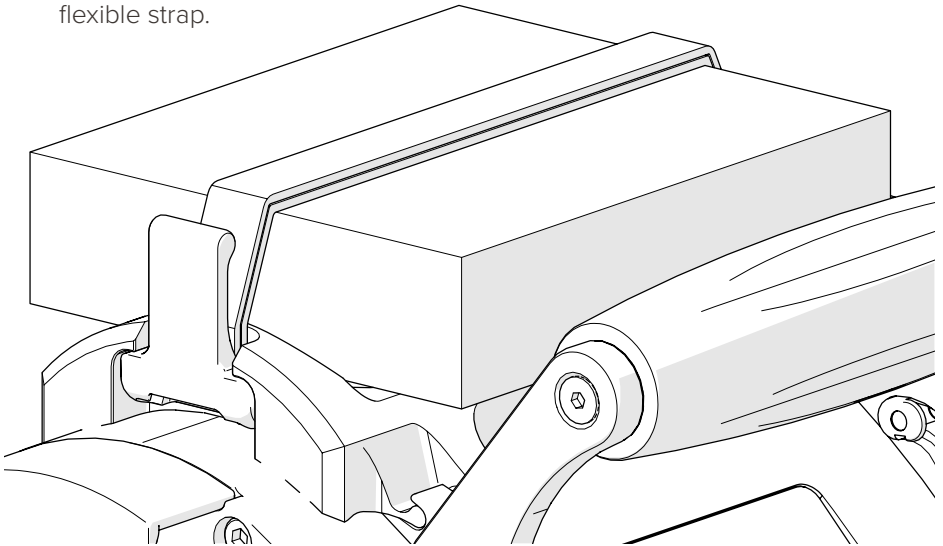

Fig. 107 - Press lever into backpack to lock in place
2. Place the scanning accessory on the backpack. Pull the strap lever across the accessory and fit the lever into place on the backpack (*Fig. 107*).